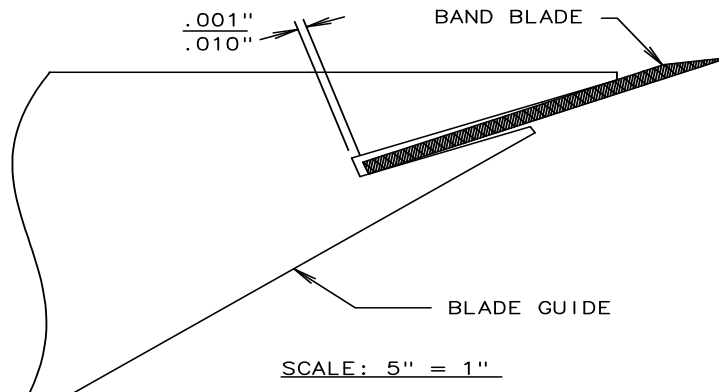

Figure 9. *Blade Guide.*
4. (See Figure 9) Adjust the blade guide forward or backward until the blade clearance on one end is between 0.001" and 0.010" (approximately 1/2 of the band blade thickness). Snug the bolts on that end.
4. (See Figure 9) Adjust the blade guide forward or backward until the blade clearance on one end is between 0.001" and 0.010" (approximately 1/2 of the band blade thickness). Move the backstop forward until it contacts the rear of the blade guide. Tighten the backstop bolts and clamp down that end of the guide.